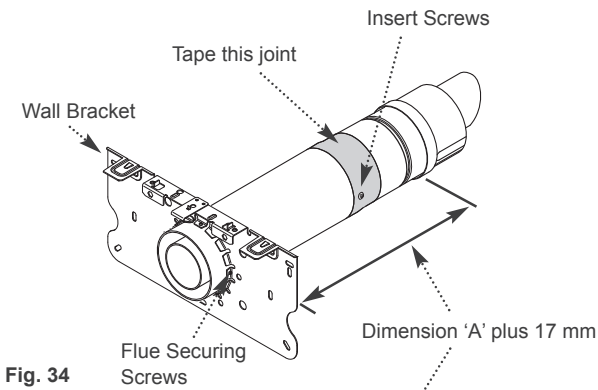
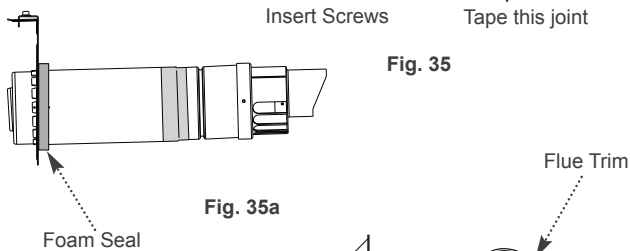

Fig. 34
Fig. 35a
5. Insert the telescopic flue into the wall bracket and secure with the three screws (Fig. 34).
6. Measuring from the wall bracket to the edge of the terminal, adjust the telescopic flue to dimension 'A', add another 17 mm to this dimension (Figs. 34 & 35).
7. Seal the joint with the tape provided and secure with the two screws (Figs. 34 & 35). Apply the self adhesive foam seal to the wall bracket and flue joint to prevent draughts when fitting to a cavity wall (Fig. 35a).